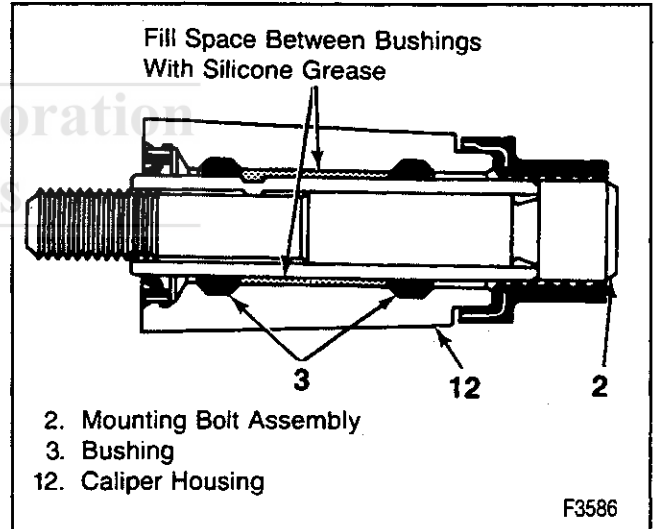

Figure 12—Mounting Bolt Lubrication (Delco 3400)
1. New bushings (3) and bolt seals (4).
2. Lubricate bushings (3) and mounting bolt seals (4) with Delco Silicone Lube (GM P/N 18010909) or equivalent (figure 12 or 13).
3. New bolt boots (1).
4. Caliper (12).
- Fill both housing cavities between bushings (3) with Delco Silicone Lube (GM P/N 18010909) or equivalent (figure 12 or 13).
5. Mounting bolt and sleeve assemblies (2).